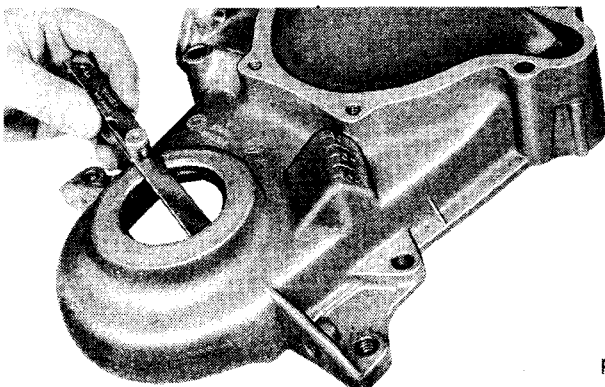

Fig. 24—Inspecting Seal for Proper Seating
(3) Insert installing screw through installing plate. Part of Tool C-3506.
(4) Insert installing screw with plate through the seal opening (inside of chain case cover facing up).
(5) Place seal in the cover opening, with seal lips down. Place the seal installing plate into the new seal, with protective recess toward lip of seal retainer, Tool SP-5598, part of Tool C-3506.
(6) Install flat washer and nut on installing screw, hold screw and tighten the nut.
(7) Seal is properly installed when seal case is tight against face of cover. Try to insert a .0015 inch feeler gauge between seal case and cover. If the seal is installed properly, the feeler gauge cannot be inserted. Seal must be fully bottomed in case (Fig. 24).